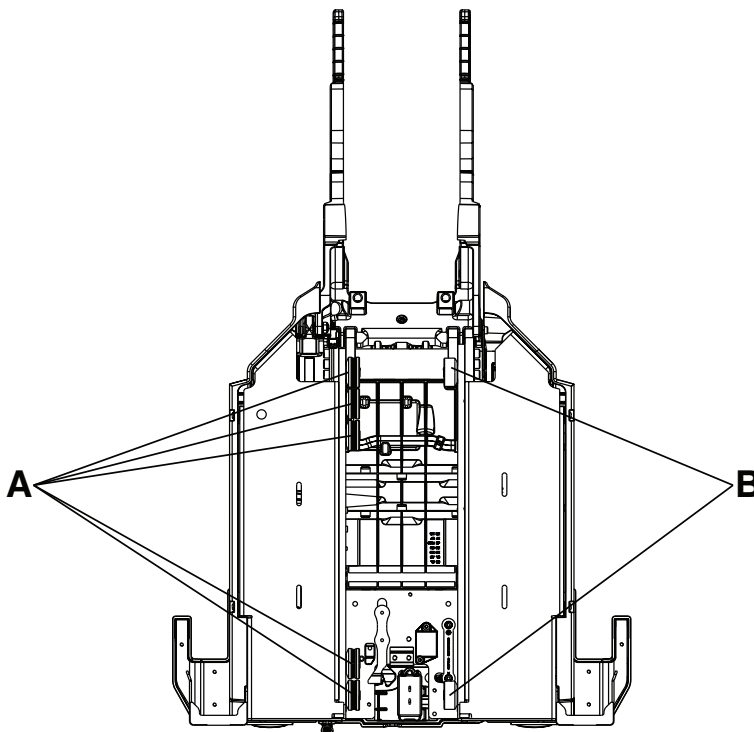

Figure 26: Trolley bottom view of the V-guide rollers
- Carefully set the trolley upright on its head end (Figure 26 on page 59).
**Note:** The V-guide rollers are on the patient right side (five rollers) (A) and the flat rollers are on the patient left side (two rollers) (B) (Figure 26 on page 59).